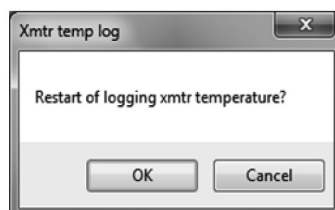

Fig.158
- ③ The converter's internal temperature is saved to the log approximately once every 2 minutes, and log entries begin to be repeatedly overwritten after 64 entries are saved. If the transmitter's internal temperature exceeds 90°C, then an "Xmtr temperature alarm" will occur, and after 32 log entries are saved from that point, the saving of logs will halt.
- To restore the system from this state, click the "Reset" button to display a message box (Fig. 158).